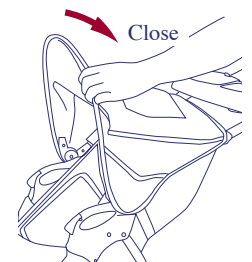

Figure 11.
- To fold the canopy, pull backwards on the front edge. Please see figure 11.